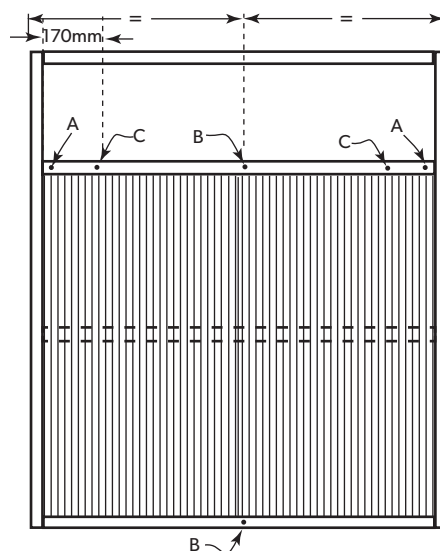

Figure 23.5
4. If required, trim the lattice to fit the width of your gate. Equally trim both ends to retain a balanced effect (Figure 23.5).
15. If your gate includes a lattice, insert it into the top rail. Swing the bottom of the lattice in, and secure it to the lower top rail using 3 hex. head screws for standard width gates, or 3 for extra wide gates. Secure it also to the top rail: 2 screws for standard width gates, and 3 screws for extra width gates (Figure 23.5).